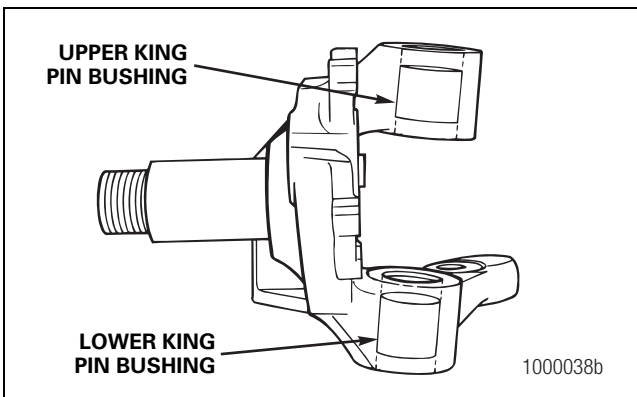

Figure 4.31
- D. Turn the knuckle upside down. Install the tool into the lower king pin bushing and press it from the knuckle bore. Figure 4.31.